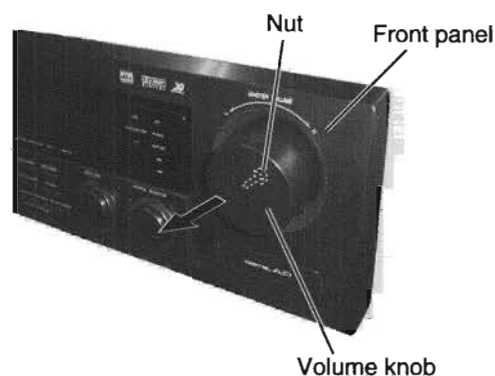

Fig.19
**■ Removing the system control board / power switch board (See Fig.19 to 20)**